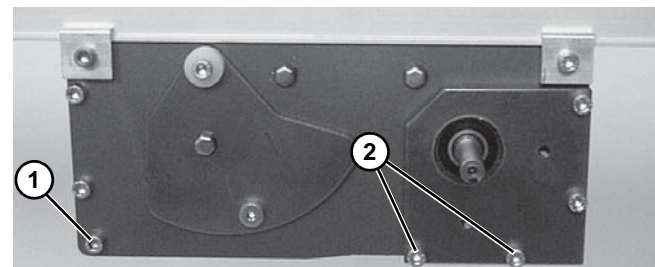

Figure 66
- Tighten corner screws (Figure 66, item 1) on each side of the drive module to 80 in-lb (9 Nm).
- Re-install tension door screws (Figure 66, item 2) on each side of the module. Tighten screws to 60 in-lb (6.8 Nm).
With vertically mounted gearmotors, tension door screws (Figure 66, item 2) are installed on one side when the gearmotor mounting package is installed.